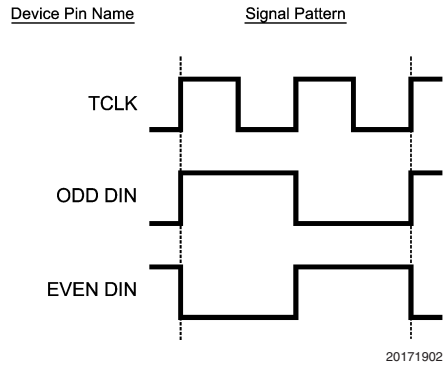

FIGURE 1. Serializer Input Checker-board Pattern
**Note 11:** Figures 1, 2, 9, 10, 13 show a falling edge data strobe (TCLK IN/RCLK OUT).